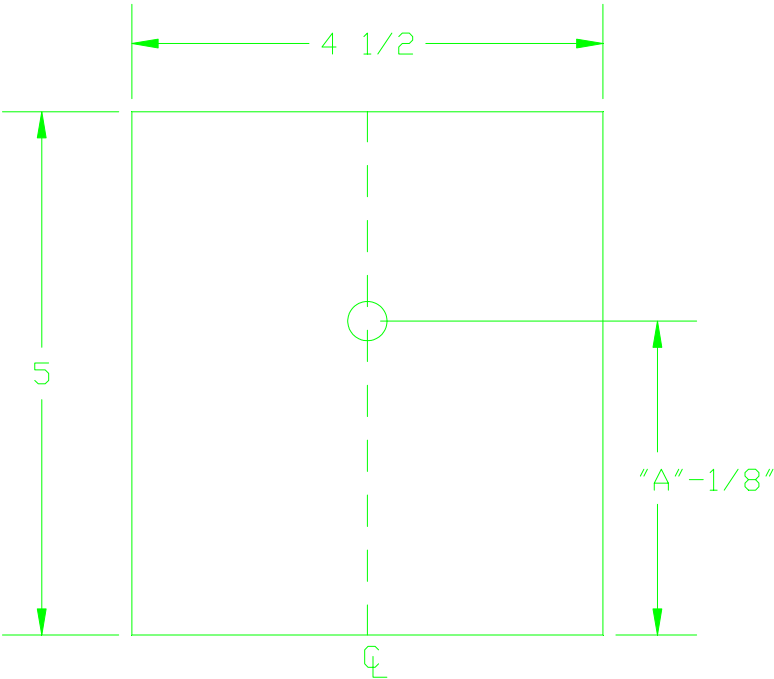

FIGURE 30
61) From .063 Rawstock-25 cut out two doublers $5'' \times 4 \frac{1}{2}''$. Drill $\frac{3}{8}''$ holes as in Figure 30.